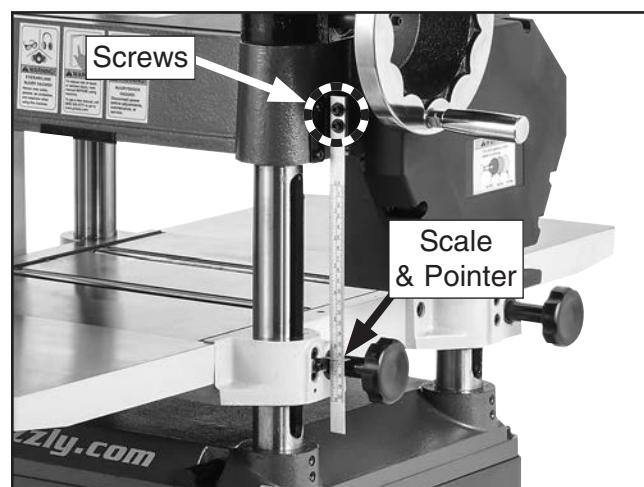

Figure 73. Location of table height scale.
3. If there is a discrepancy between board thickness and reading on table height scale, loosen both screws shown in **Figure 73**, adjust scale in relation to pointer, then re-tighten screws.